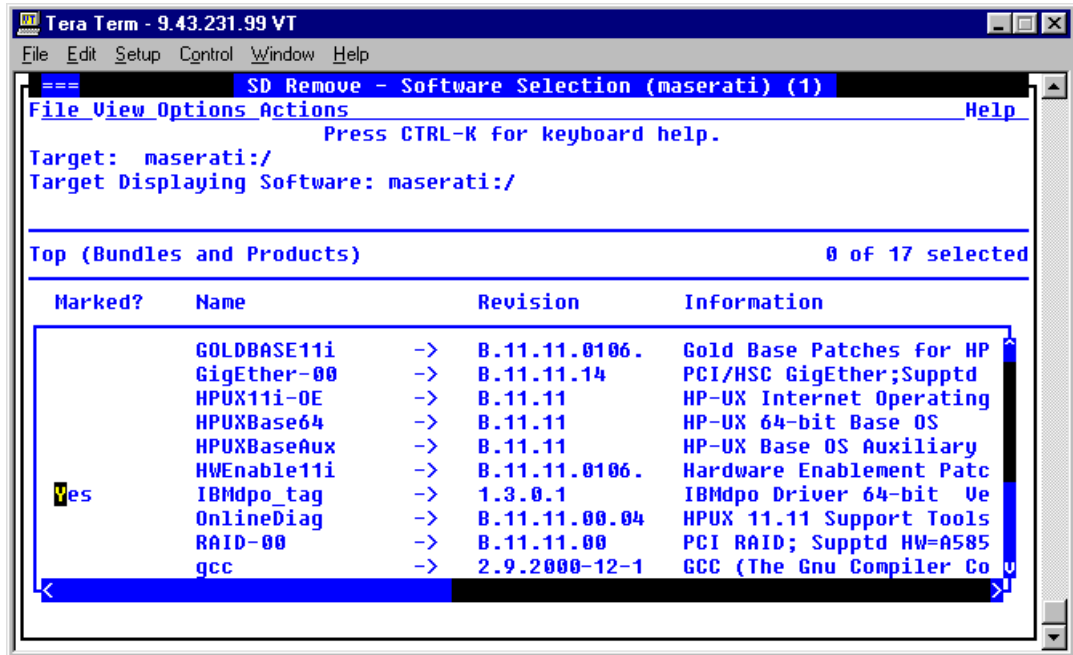

Figure 7-2 Uninstalling SDD window
12. Type `swremove` and press **Enter** twice to go directly to the uninstall screen of SAM. See Figure 7-2.